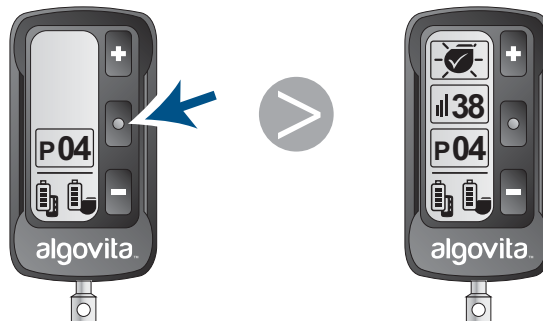

Figure 46. Confirming new setting
3. Press **+** or wait 5 seconds to confirm the new setting (*Figure 46*).